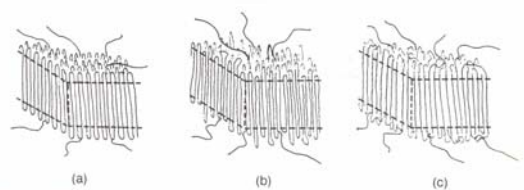

FIGURE 3.16. Folded-chain lamella model: (a) regular adjacent folds; (b) irregular adjacent folds; and (c) nonadjacent switchback.
- a) **Figure 3.16 in Stevens**